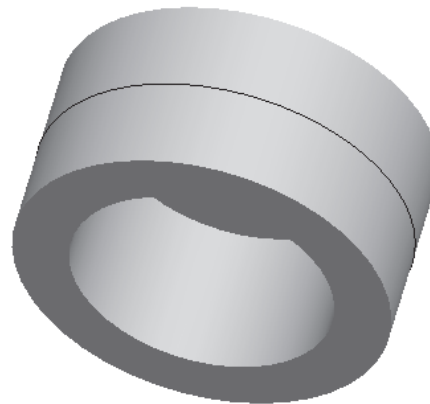

Figure 7-46 Datum curve created on the circumferential surface of the cylindrical feature
5. Choose the **Build feature** button from the dashboard to exit the feature creation tool. The datum curve is created on the circumferential surface of the cylinder, as shown in Figure 7-46.